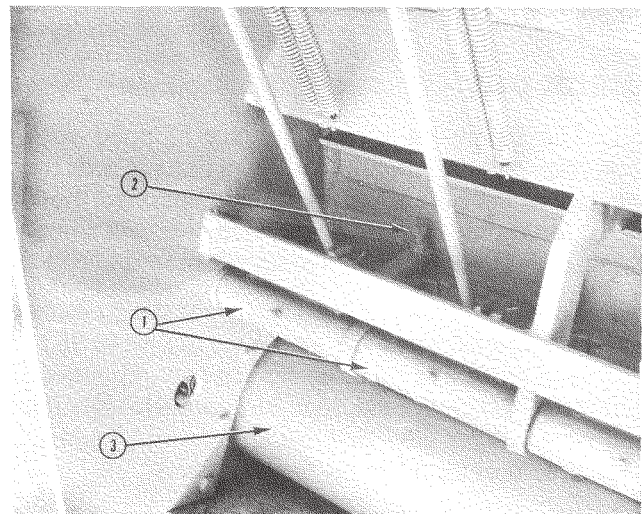

Figure 4. Hopper Gates
7. Hopper gate adjustment and spread roll straightness are established at the factory. However, to be sure adjustments or straightness were not altered during shipment and storage, the following gate and spread roll adjustment checks should be performed prior to operation (see Figure 4):